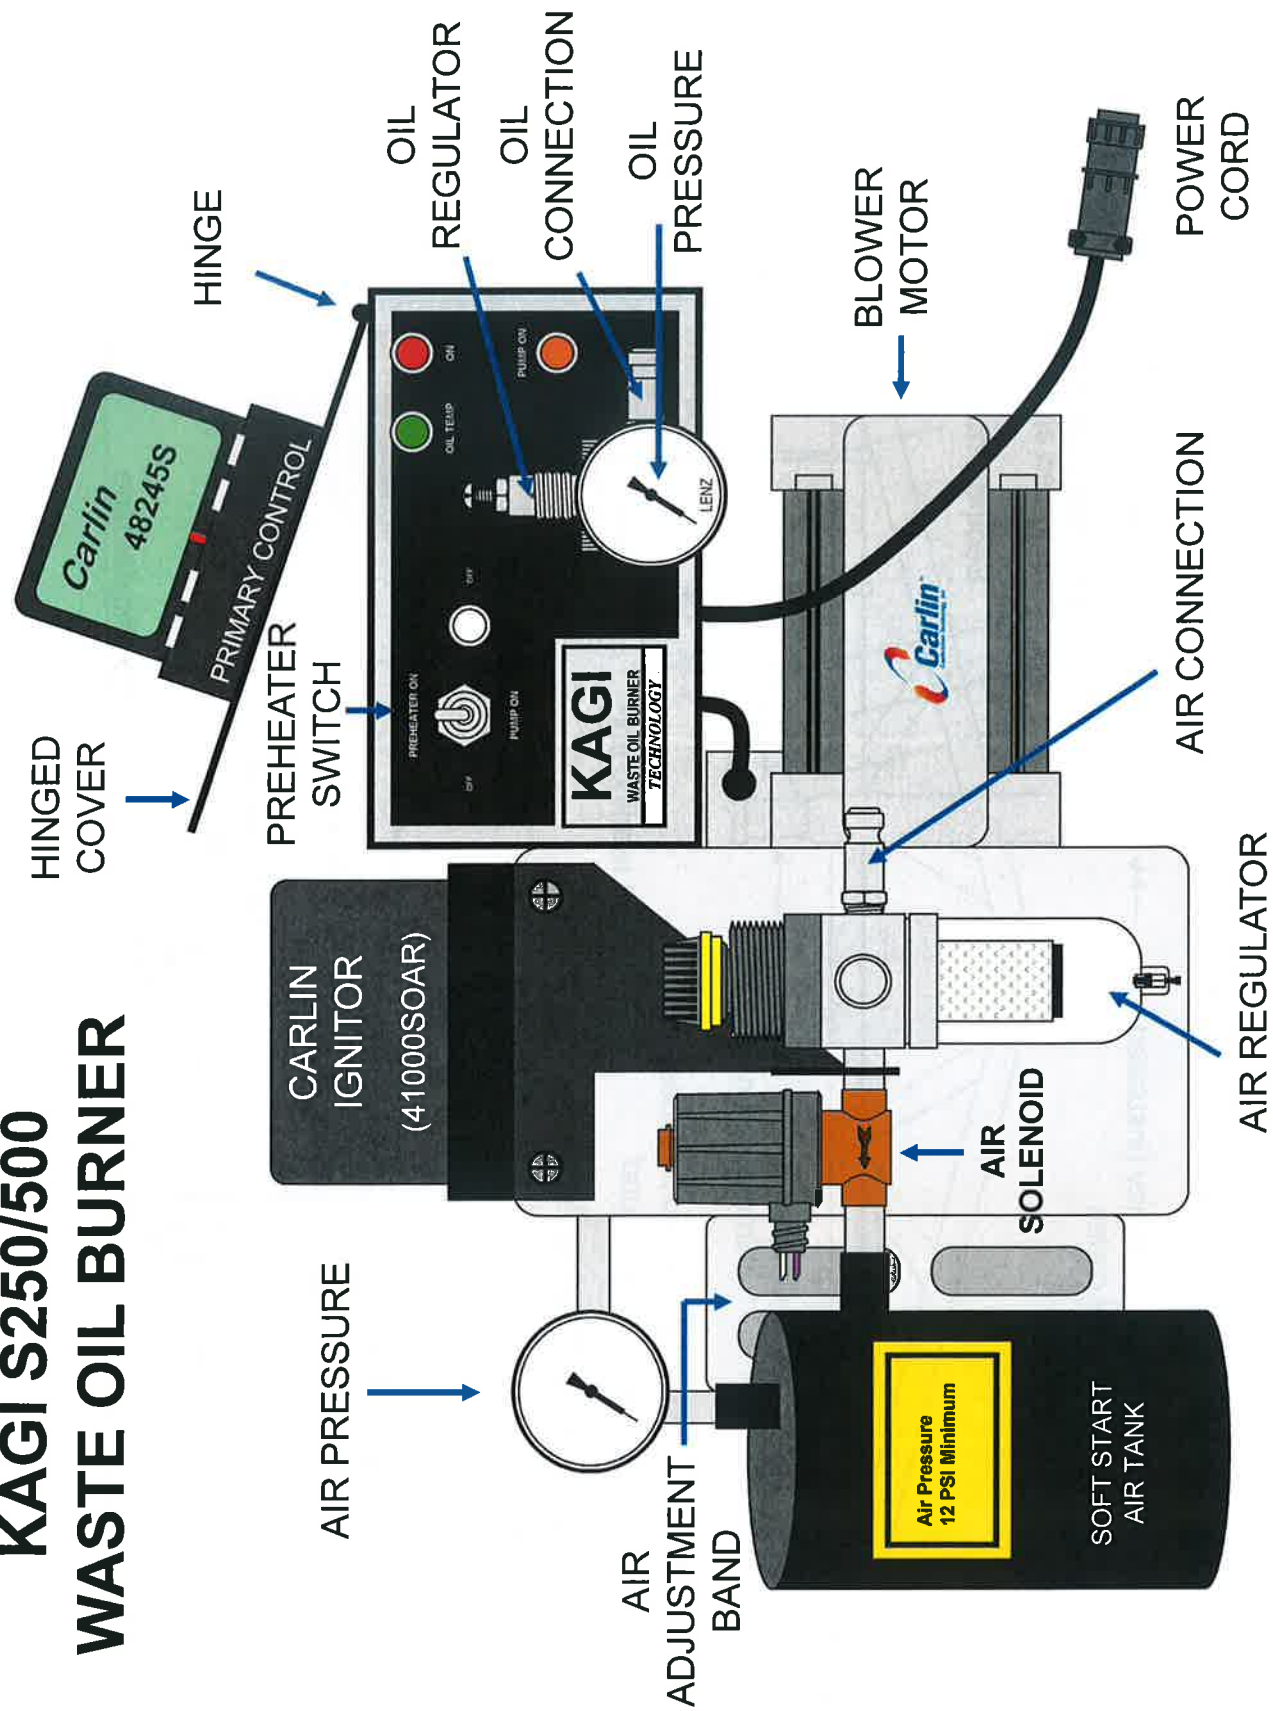

Figure 5
- Kagi Burner Drawing	Figure 5